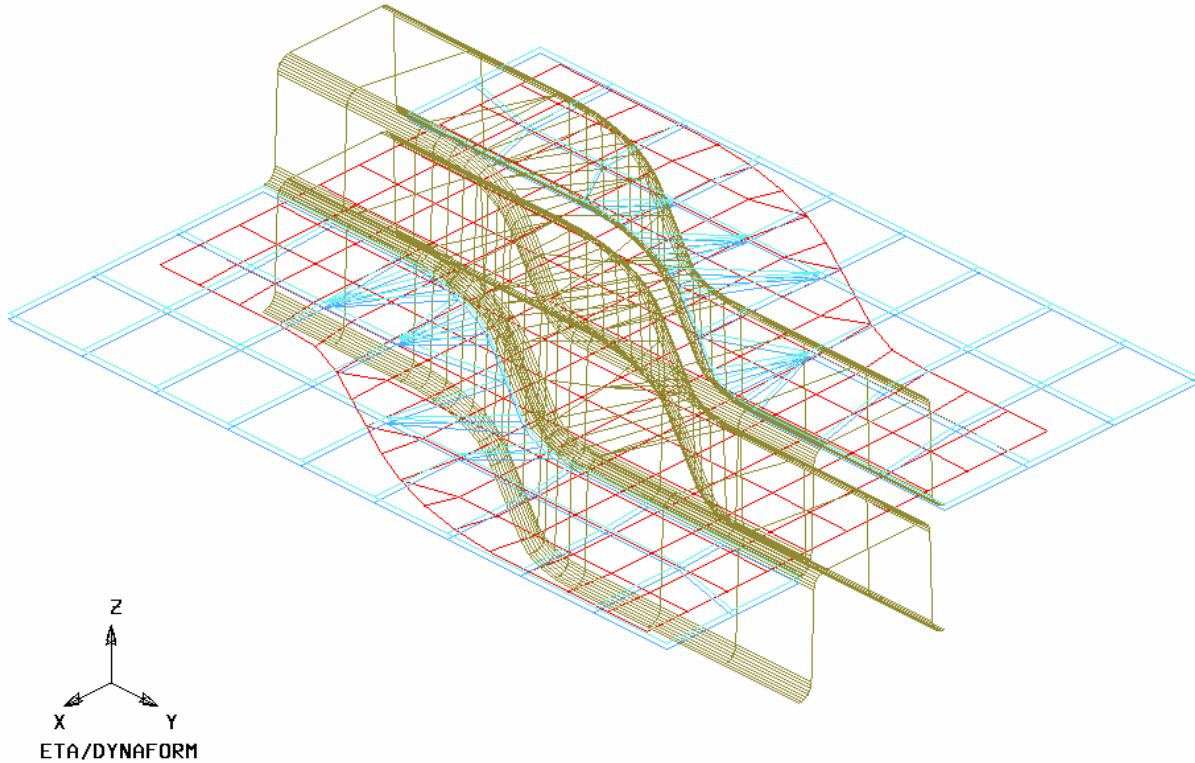

Figure 57: Illustration of model setup after autopositioning
12. Compare your display with the illustration in Figure 57.